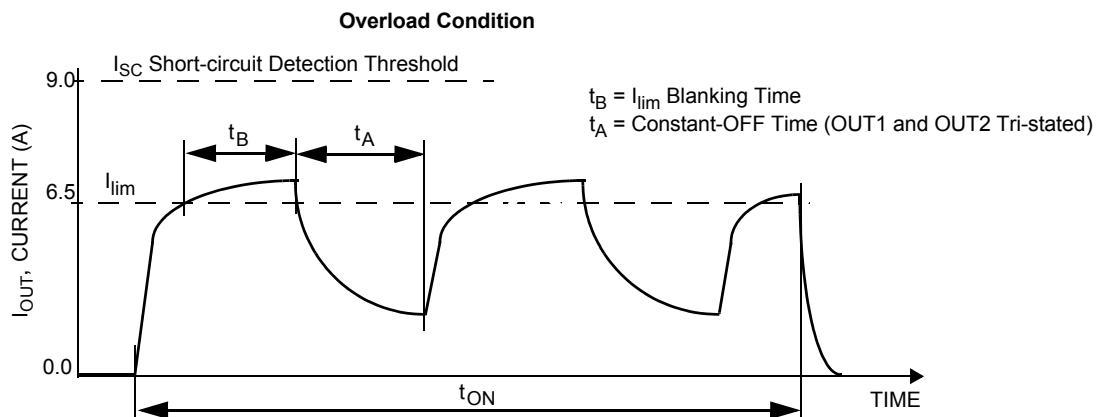
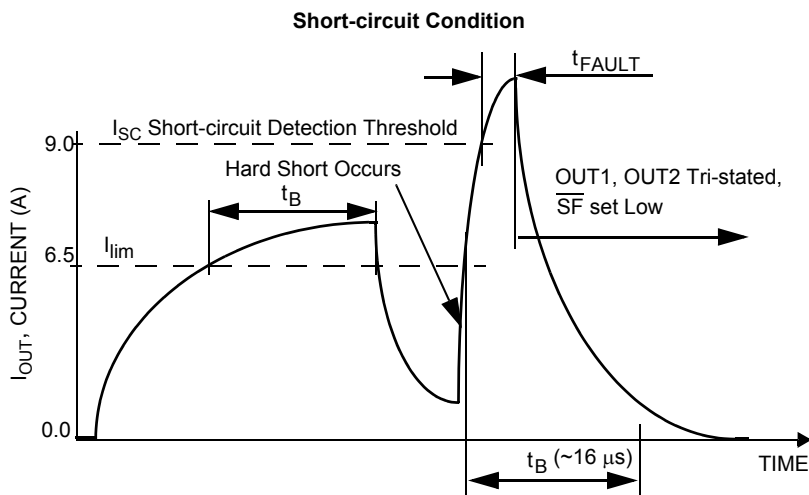
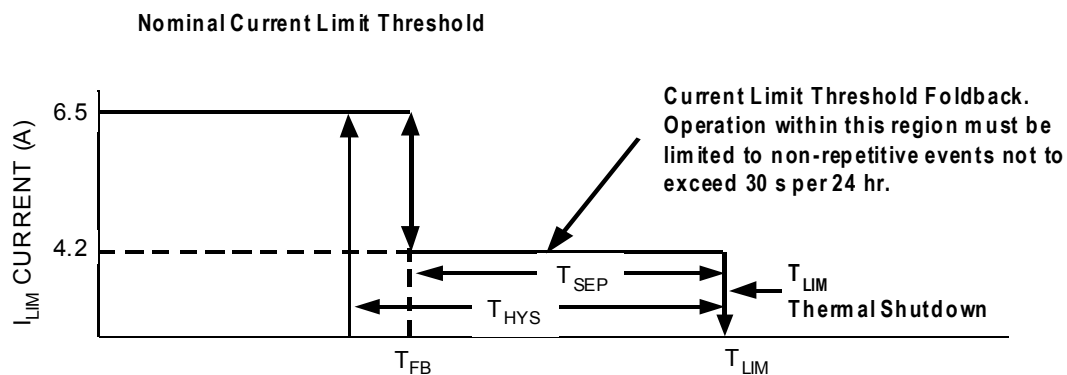

Figure 7. Current Limit Blanking Time and Constant-OFF Time
Figure 8. Short-circuit Detection Turn-OFF Time t_{FAULT}
Figure 9. Output Current Limiting Foldback Region
| I_{LIM} | Output Current Regulation Threshold $T_{\text{J}} < T_{\text{FB}}$ $T_{\text{J}} \geq T_{\text{FB}}$ (Fold back Region - see Figure 9 and Figure 11) | 5.2 – | 6.5 4.2 | 8.0 – | A | (14) |
28. Load currents ramping up to the current regulation threshold become limited at the I_{LIM} value (see Figure 7). The short-circuit currents possess a di/dt that ramps up to the I_{SCH} or I_{SCL} threshold during the I_{LIM} blanking time, registering as a short-circuit event detection and causing the shutdown circuitry to force the output into an immediate tri-state latch-OFF (see Figure 8). Operation in Current Limit mode may cause junction temperatures to rise. Junction temperatures above $\sim 160^{\circ}\text{C}$ will cause the output current limit threshold to "fold back", or decrease, until $\sim 175\text{ }^{\circ}\text{C}$ is reached, after which the T_{LIM} thermal latch-OFF will occur. Permissible operation within this fold back region is limited to non-repetitive transient events of duration not to exceed 30 seconds (see Figure 9).